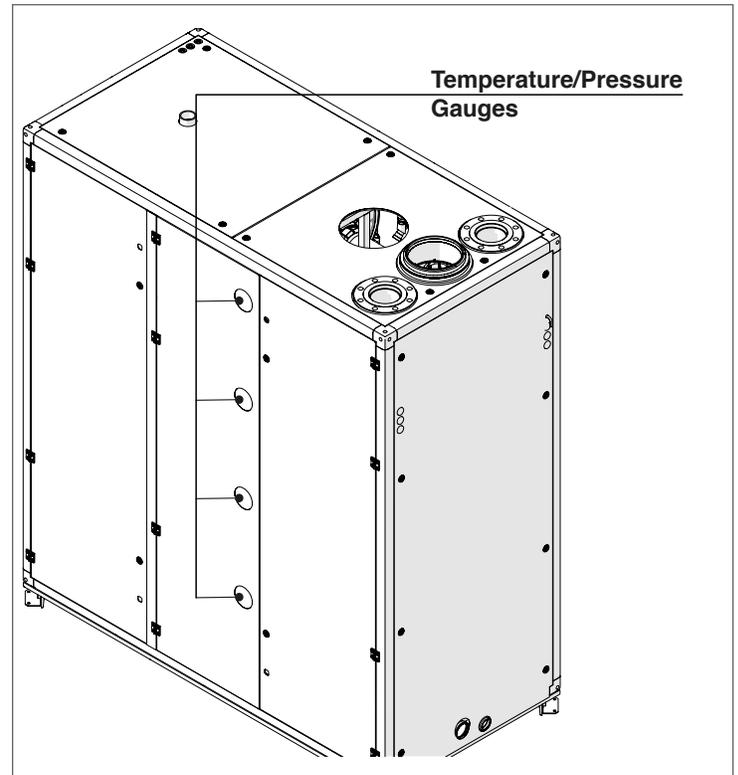

Fig. 53 Temperature/Pressure Gauge location
- Open the fill valve and proceed to fill the heating system and boiler until the pressure gauge (shown on Fig. 53), reads the pressure for which the heating system is sized. The heating system water pressure must be higher than 7.5 PSI.
Open the filling valve and check the pressure on the temperature/pressure gauge of Fig. 53.